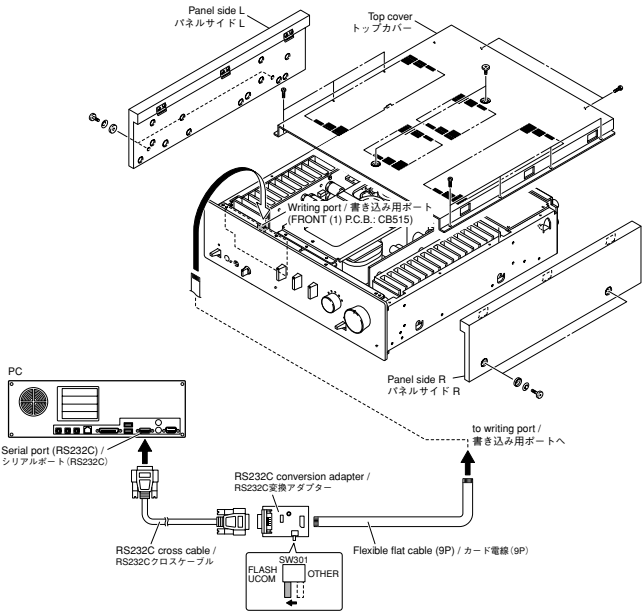

Fig. 1
Adjust VR201 (Lch)/VR101 (Rch) so that the DC voltage of CB75 (Lch)/CB55 (Rch) becomes +4.0 to +8.0 mV of CB75 (Lch)/CB55 (Rch) becomes +4.0 to +8.0 mV. (Fig. 1)
CB75 (Lch)/CB55 (Rch) のDC電圧が+4.0～+8.0 mV になるように、VR201 (Lch)/VR101 (Rch) を調整します。(Fig. 1)
- Set the switch (SW301) of RS232C conversion adapter to the "FLASH UCOM" side. (Fig. 1)
- Connect the writing port of this unit to the serial port (RS232C) of the PC with RS232C cross cable, RS232C conversion adapter and flexible flat cable as shown below. (Fig. 1)
- RS232C変換アダプターのスイッチ(SW301)を"FLASH UCOM"側に設定します。(Fig. 1)
- 本機の書き込み用ポートとPCのシリアルポート(RS232C)を下記のように接続します。(Fig. 1)